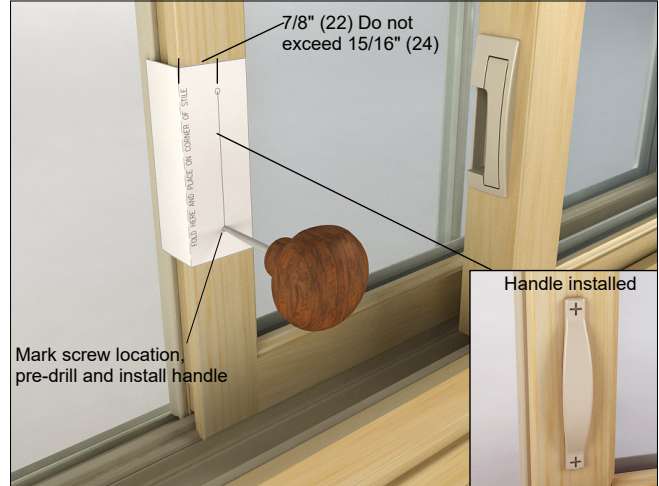

Figure 1
1. Open the primary sash 1" (25) and then slide the secondary sash over 12" (305).
2. Fold the template at the dotted line and place the template at a convenient location along the stile. Mark the location of the screws, 7/8" (22) from the edge of the stile, with an awl. Pre-drill the holes with a 7/64" bit. See figure 1. Use a Phillips screwdriver and supplied screws to secure the handle to the sash